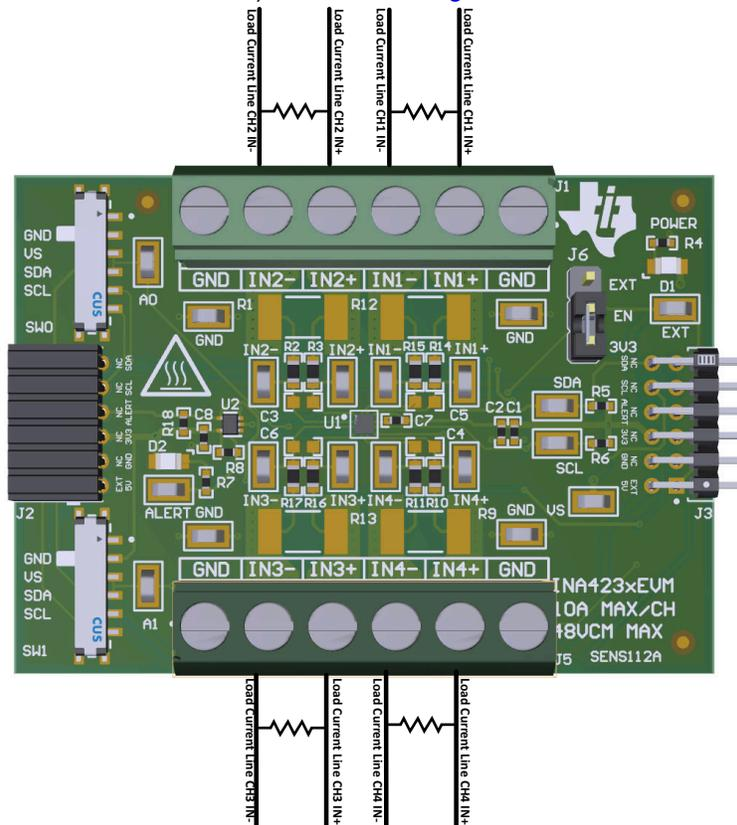

Figure 2-3. IN+ and IN- Wiring for More Than 10A
- b. Connect an external shunt across the IN+ and IN- terminals of J1 or J5 as shown in Figure 2-3.
- a. When measuring more than 10A, make sure the high current path does not go through the EVM (including the terminal blocks J1 or J5), as shown in Figure 2-3.